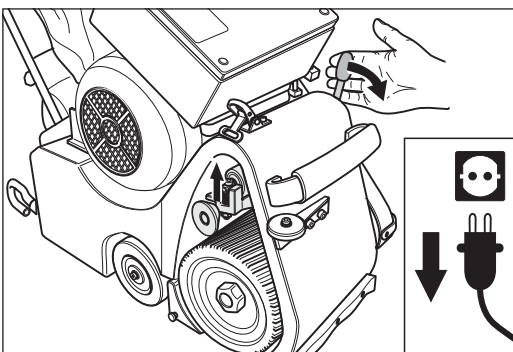

Fig. 67 Press the operating lever of the drive unit downwards.
- 6 If you wish to remove the tensioning roller of the drive unit (→ *Section 7.7, Replacement of tensioning roller*), press the operating lever of the drive unit downwards (Fig. 67).